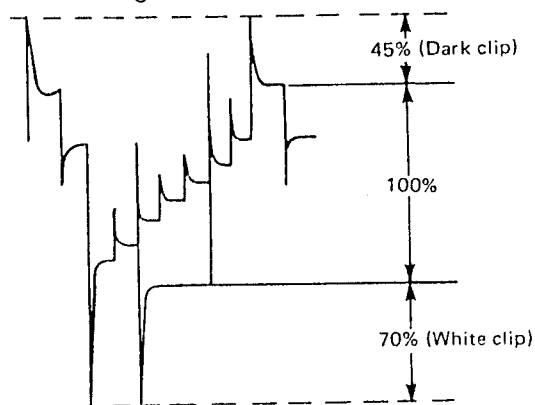

Figure 37.
- 1) Set deck-(1) or (2) to the recording mode.
- 3) Adjust the clip points by using R215 (dark clip control) and R217 (white clip control) as set in figure 37.